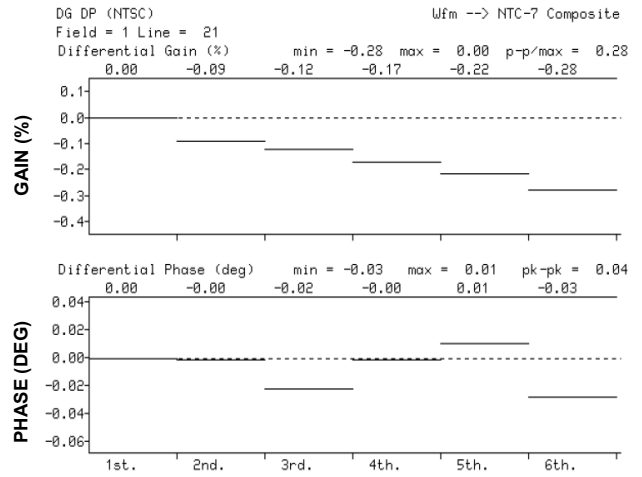

FIGURE 18.
Figure 18 shows the differential gain (DG) and differential phase (DP) plots at the output of the switch using an actual NTSC composite video signal and a VM700A Video Measurement Test Set. DG = 0.28% and DP = 0.04deg.